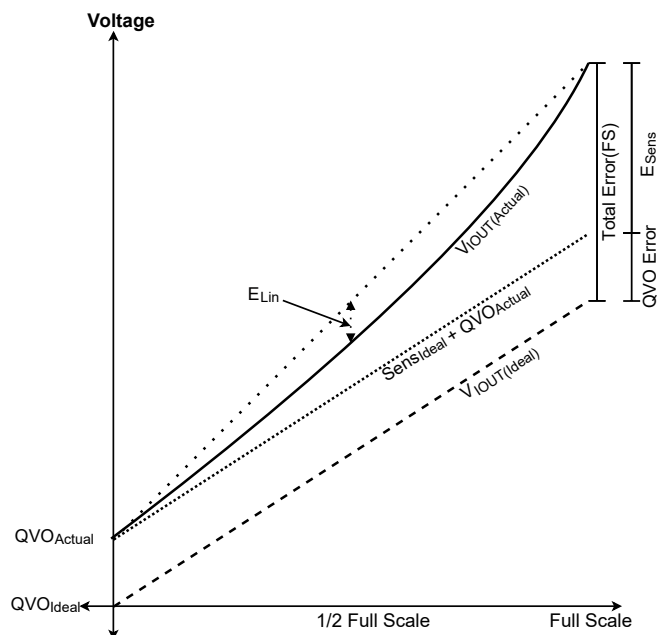

Figure 10: Accuracy Error
As the amount of field applied to the part changes, the sensitivity of the device can also change slightly. This is referred to as linearity error or E_{LIN} (see Figure 10). Consider two currents, I_1 (1/2 FS) and I_2 (FS). Ideally, the sensitivity of the device is the same for both fields. Linearity Error is calculated as the percent change in sensitivity from one field to another. Error is calculated separately for positive ($E_{LIN(+)}$) and negative ($E_{LIN(-)}$) currents, and the percent errors are defined as:
Total Output Error incorporates all sources of error and is a function of current. At relatively high currents, Total Output Error will be mostly due to sensitivity error, and at relatively low inputs, Total Output Error will be mostly due to Offset Voltage (V_{OE}). At $I = 0$ A, Total Output Error approaches infinity due to the offset. An example of total error at FS can be seen in Figure 10.